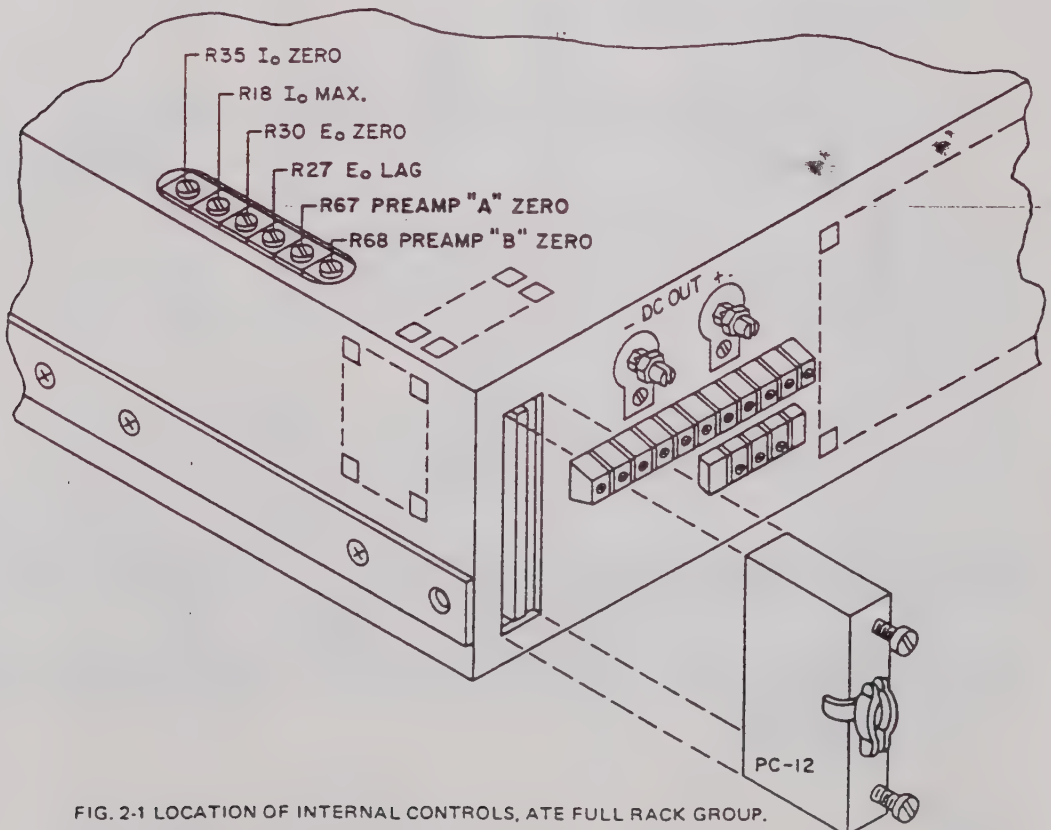

FIG. 2-1 LOCATION OF INTERNAL CONTROLS, ATE FULL RACK GROUP.
- INTERNAL CONTROLS: Refer to FIG. 2-1 and Table 2-1.
LAG NETWORK ADJUSTMENT. The ATE power supply operating in the "fast" mode, is dynamically stabilized by means of an internal lag network (E_o LAG, R27, see FIG. 2-1 for location). This control should be adjusted, for each application, by monitoring the load with an oscilloscope and turning the LAG control for best output response and maximum dynamic stability under all operating conditions.